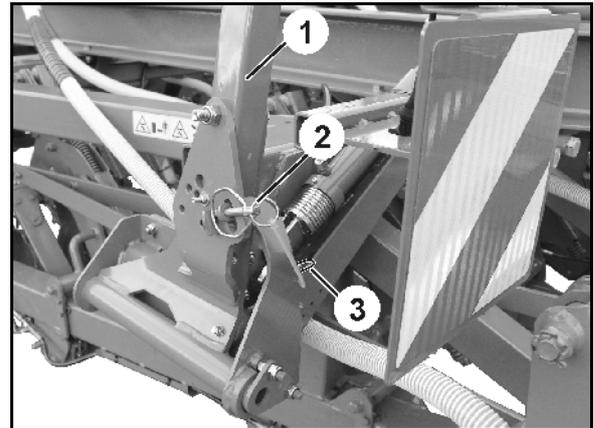

Fig. 62
Before driving on non-public and public roads and lanes, the track markers (Fig. 62/1) must be secured against accidental lowering using linchpins (Fig. 62/2).
1. Hold the track marker boom (Fig. 62/1) and remove the linchpin (Fig. 62/2).
2. When not in use, park the linchpin in the holder (Fig. 62/3).